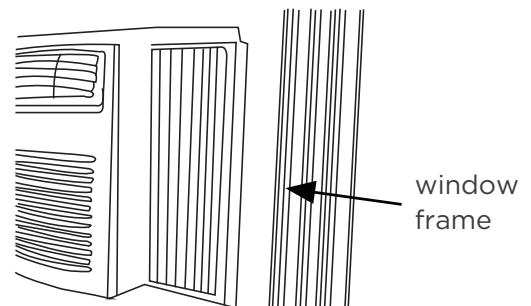

Fig.6
- B. Extend the side panels out against the window frame (Fig.6).